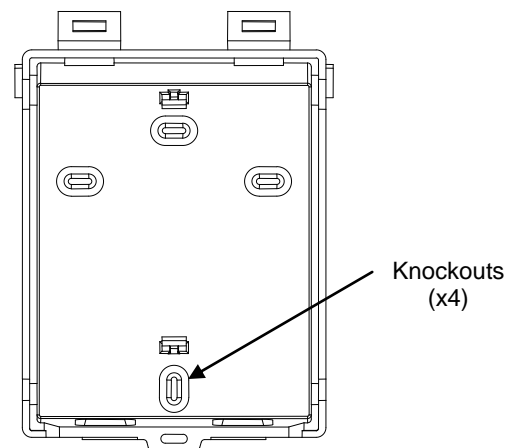

Figure 1
2. Prior to installing the SVN, decide on the (2) knockout locations that are to be used (See Figure 1). Using a flat bladed screwdriver knockout the (2) locations and use two #8 screws to mount the unit.